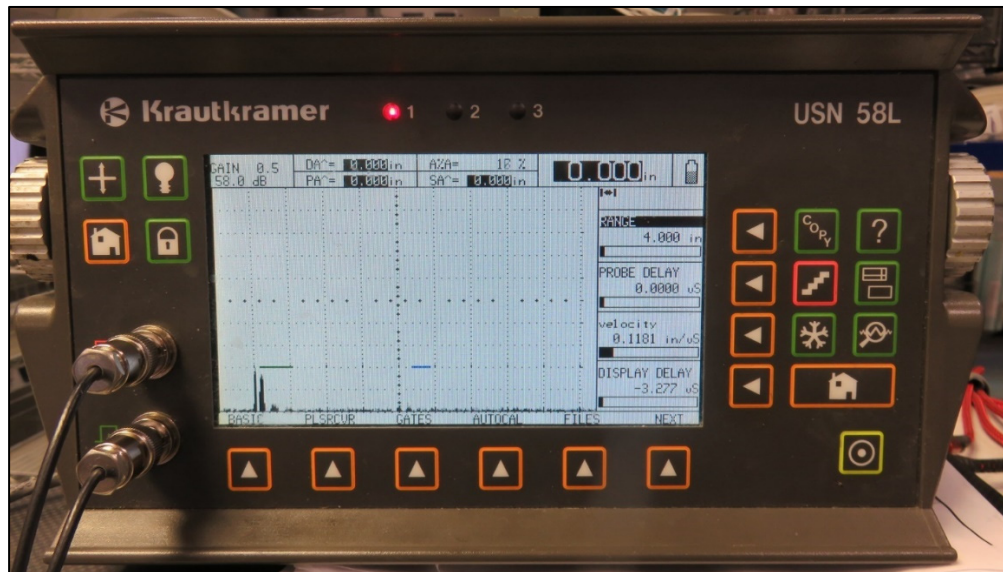

Figure 2: Set Up
- c. Set up the Krautkramer USN 58L as follows (refer to figure 2):